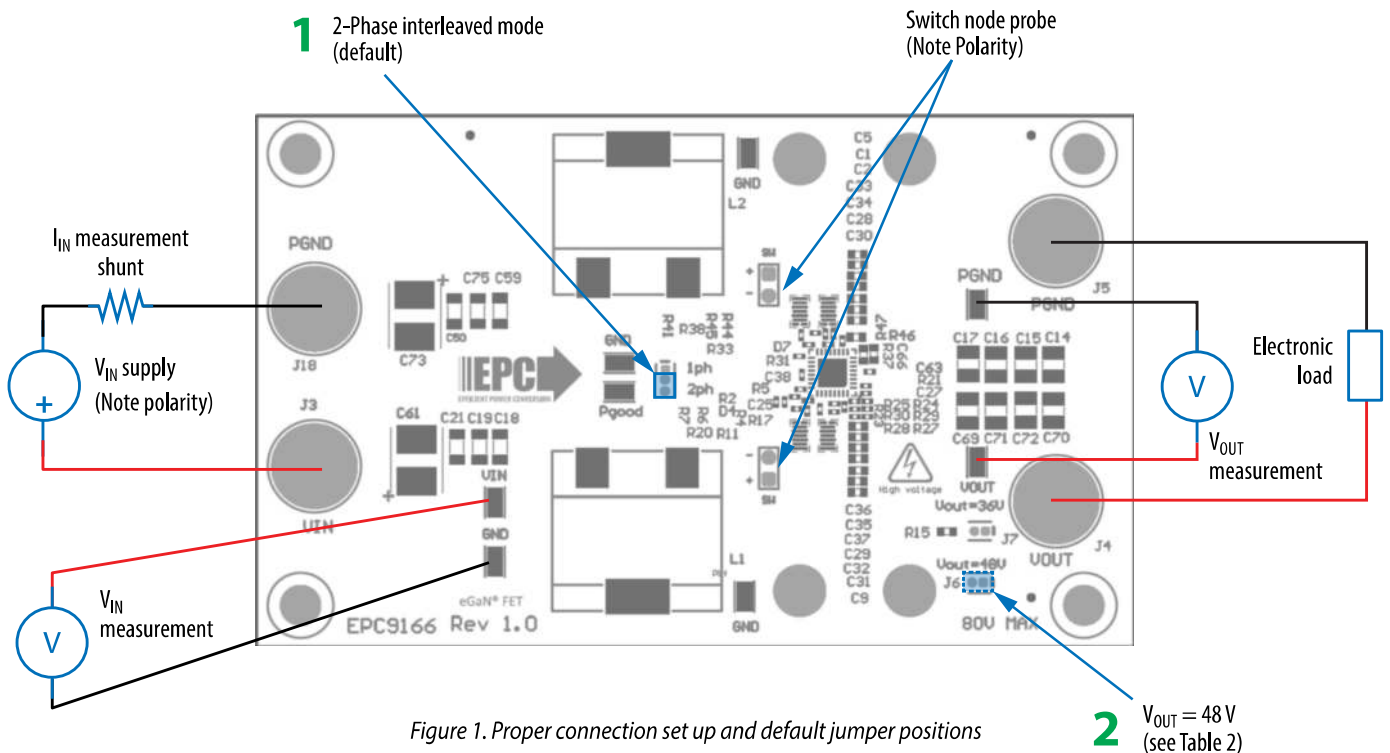

Figure 1. Proper connection set up and default jumper positions
The demonstration board EPC9166 is easy to set up to evaluate the performance of the EPC2218 eGaN FETs and directly drive from the controller IC. Refer to figure 1 for proper connect and measurement setup and follow the procedure below:
1. Configure the jumpers for phase mode the output voltage setting per figure 1 and table 2. The phase mode jumper J8 sets the 180° phase shift between the two phases in its default location (1). The output voltage is set by jumper J6 and J7 and the default location (2) sets the output voltage at 48 V.
3. With power off, connect a programmable load as needed between VOUT (J4) and GND (J5) as shown in figure 1.